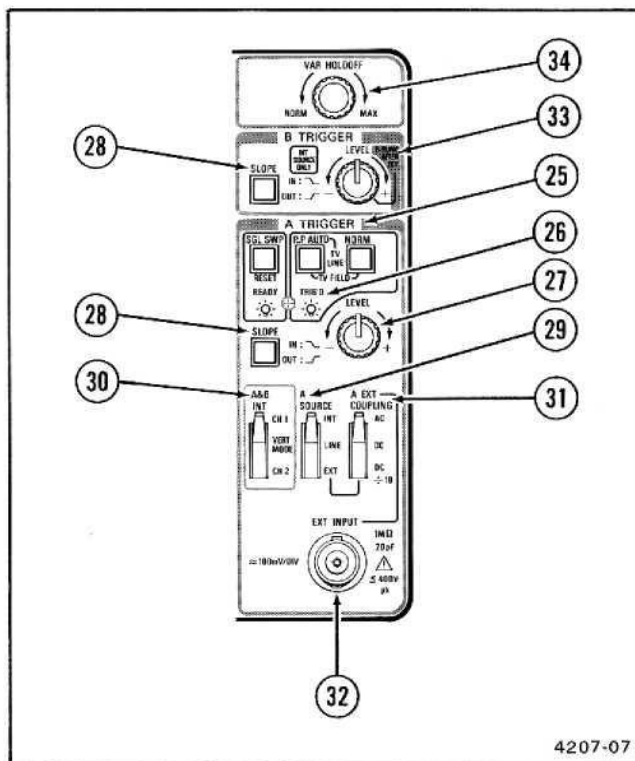

Figure 2-6. Trigger controls, connector, and indicator.
Refer to Figure 2-6 for locations of items 25 through 34.
- (25) **TRIGGER Mode Switches**—Three push-button switches that determine the trigger mode for the A Sweep.